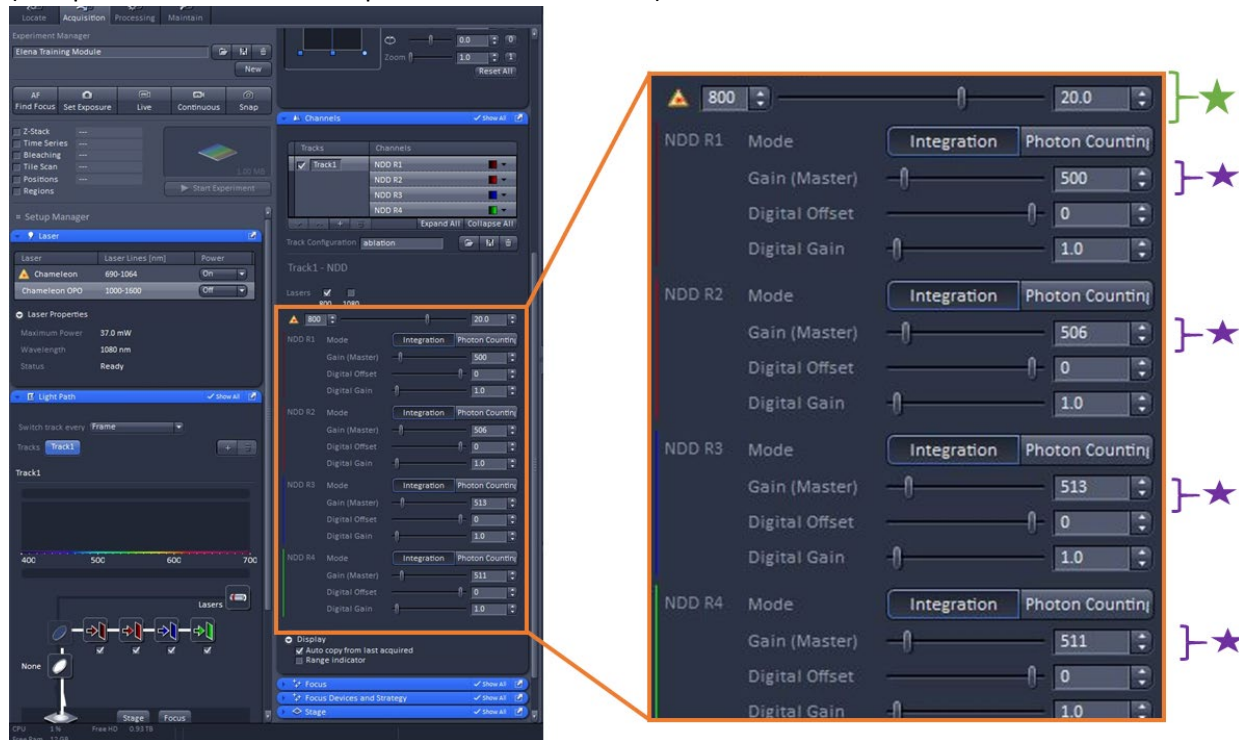

Figure 7: Power and Gain adjustment
- b. After steps 2.f.iii, the Zen interface should now look like what is shown in figure 7 below (except that the transmission power bar will be near 0)
- i. Move power bar to desired transmission percentage or type in desired number in box on right. (green star in Figure 7 above, orange inset)
- ii. Detector gain adjusted with “Gain (Master)” bar (purple stars, Figure 7). There is one Gain (Master) section for each channel that you are detecting.